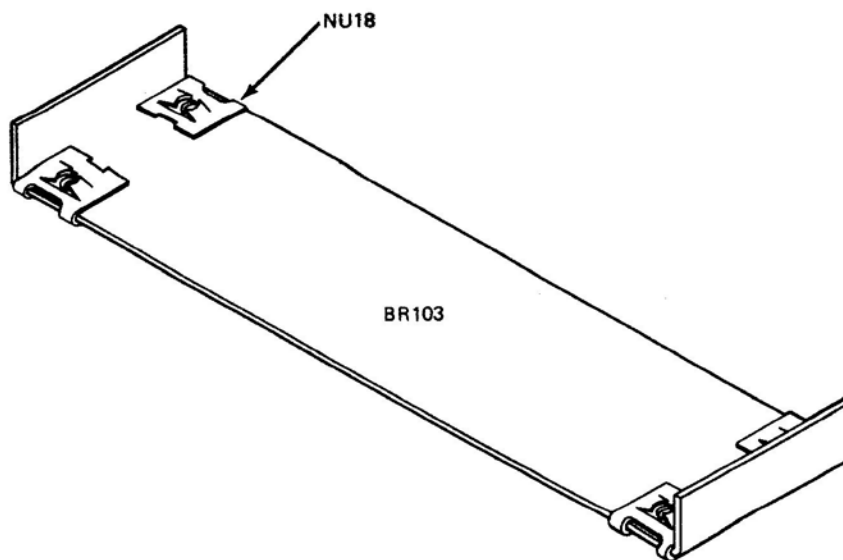

Fig. 13. The alignment bracket with four Tinnerman nuts in place.
(2) Now locate the two cabinet alignment brackets (BR103) and mount four Tinnerman nuts on the brackets over the four holes as shown in Fig. 13. The raised portion of the Tinnerman nut goes on the inside of the U-shaped brackets.